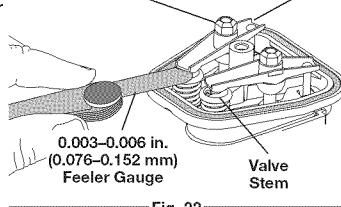

Fig. 22
6. Slide the feeler gauge between the rocker arm and the valve return spring. Measure the clearance between the valve stem and rocker arm (Fig. 22). Measure both the intake and exhaust valves.
The recommended clearance for both intake and exhaust is .003 – .006 in. (.076 – 0.152 mm). Use a standard automotive .005 in. (.0127 mm) feeler gauge. The feeler gauge should slide between the rocker arm and valve stem with a slight amount of resistance, without binding (Fig. 22).
- a. Turn the adjusting nut using a 5/16 inch (8 mm) wrench or nut driver (Fig. 22).